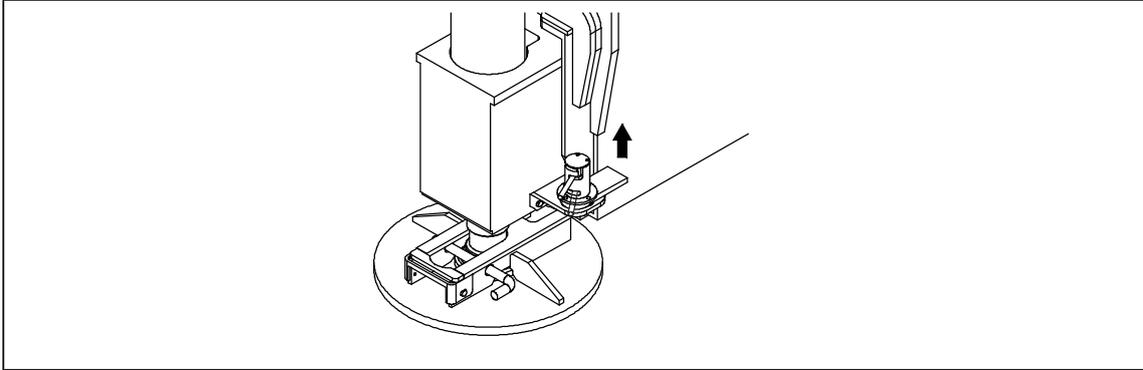

Figure 04 – 16
- b) As illustrated in Figure 04 – 17: